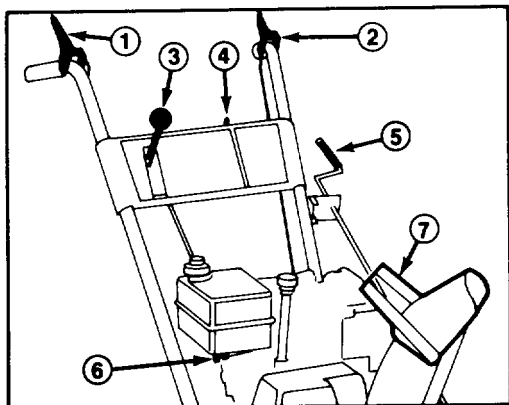

Figure 13
**Auger Drive Control** (Fig. 13) — Control has two positions: ENGAGE and DISENGAGE. To engage auger and impeller, compress lever against right handle grip. To disengage, release lever.
**Traction Control** (Fig. 13) — To achieve traction, lever must be compressed against left handle grip. To stop traction, release lever.
**Speed Selector** (Fig. 13) — The control has four positions: reverse, 1, 2 and 3. To change speeds, move gear shift to position desired. Lever will lock in notch at each speed selection. Use positions 1, 2, and 3 depending on snow conditions.
**Ignition Switch** (Fig. 13) — Switch has two positions: ON and OFF. Rotate key to ON before starting engine with the recoil starter. To stop engine, rotate key to OFF.
**Fuel Shut-Off Valve** (Fig. 13) — Valve is located under fuel tank. Close valve to stop fuel flow from fuel tank and open valve to allow fuel to flow to the carburetor. Close valve when snowthrower is not used.
**Discharge Chute Control** (Fig. 13) — Rotate discharge chute control clockwise to move discharge chute to the left and counterclockwise to move chute to the right.
**Chute Deflector Handle** (Fig. 13) — Deflector handle is on top of discharge chute, and it is used to control height of the snow stream.
3. Open fuel shut-off valve below fuel tank (Fig. 13).
5. Rotate ignition key to ON (Fig. 13).
1. Release traction and auger drive control (Fig. 13).